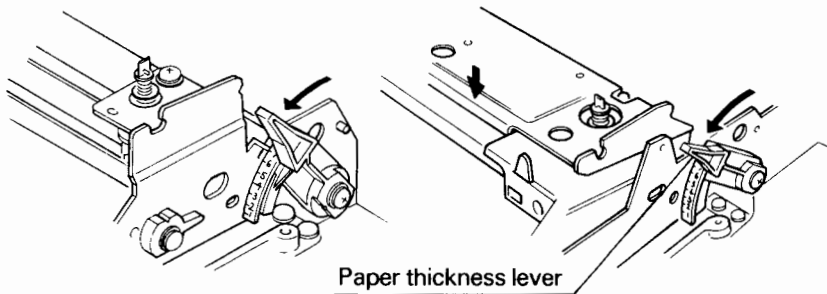

Figure 2-3 Ribbon cassette installation
6. Pull the paper thickness lever towards you, to position D (Figure 2-3).
7. Push down on the front (your side) of the ribbon cassette support frame to be sure it is in its up position (Figure 2-3) for the color version.